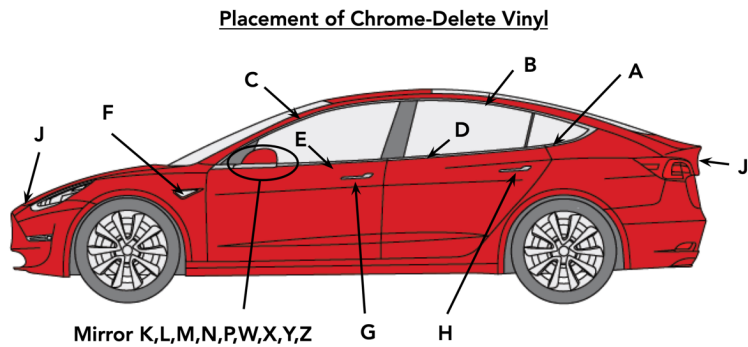
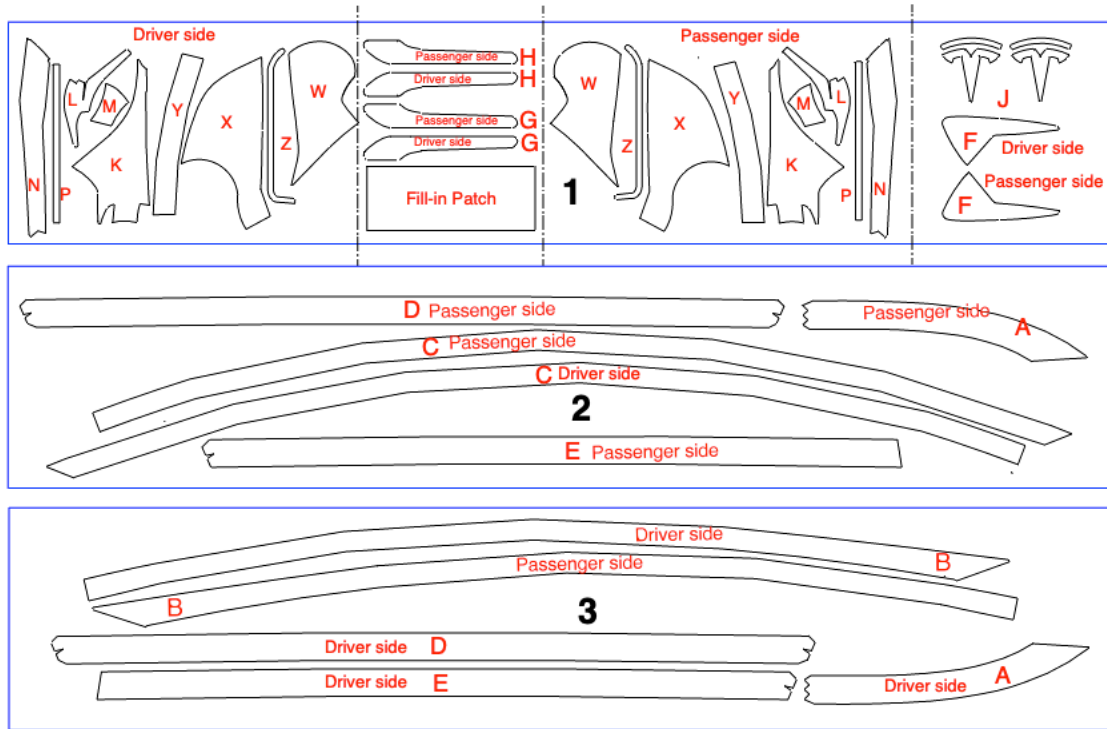

Figure 1. Vinyl Placement on Model 3
Figure 2. A layout for each chrome-delete vinyl sheet
IMPORTANT: All chrome delete vinyl pieces are cross referenced in Figure 2 on the following page. Please note that driver and passenger side vinyl pieces are also identified. Use this figure to select the right piece for each of the installation steps that follow.
IMPORTANT: (1) We strongly recommend that you follow the installation steps outlined in the order they are presented. (2) We also recommend that you cut out each piece (including white backing) from the appropriate sheet (Figure 2) as you need it and (for large pieces) peel the white backing off incrementally as you install it.
A layout for each chrome delete vinyl sheet is presented in **Figure 2**. **Note that you'll get two (2) copies of each sheet.** The letters shown on each sheet in Figure 2 correspond to the 'car' schematic (**Figure 1**) and legend shown on the first page. Sheet # 1 in Figure 2 contains all accent pieces, including those for the side mirrors. Sheets # 2 and # 3 contain window and door trim pieces. You may choose to start on either the driver or passenger side of your Model 3. Be sure you consistently use pieces designed for the side you choose (see Figure 2).
All further installation steps make reference to Figure 2 above. Four (4) **Installation Videos** are available at evannex.com and should be used in conjunction with these instructions.
The following installation steps are applied for both the driver and passenger sides of your Model 3. Reference to the location of pieces can be found in the Figure 1. The location of pieces on the vinyl sheet is shown in Figure 2.
Note: You can choose to start with either the **driver** or **passenger** side. **Be sure you select the appropriate pieces using Figure 2 as a guide.** Work should be performed in a dust-free area.